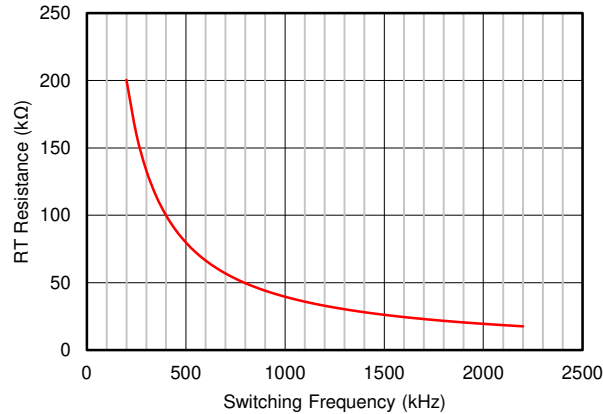

图 8-2. RT vs Frequency Curve
The LMR23630 is internally compensated as shown in Figure 8.2. The internal compensation is designed so that the loop response is stable over the entire operating frequency and output voltage range. Depending on the output voltage, the compensation loop phase margin can be low with all ceramic capacitors. TI recommends an external feed-forward capacitor C_{FF} be placed in parallel with the top resistor divider R_{FBT} for optimum transient performance.
High-side MOSFET overcurrent protection is implemented by the nature of the peak-current-mode control. The HS switch current is sensed when the HS is turned on after a set blanking time. The HS switch current is compared to the output of the error amplifier (EA) minus slope compensation every switching cycle. See the Figure 8.2 for more details. The peak current of HS switch is limited by a clamped maximum peak current threshold I_{HS_LIMIT} which is constant. Thus, the peak current limit of the high-side switch is not affected by the slope compensation and remains constant over the full duty cycle range.